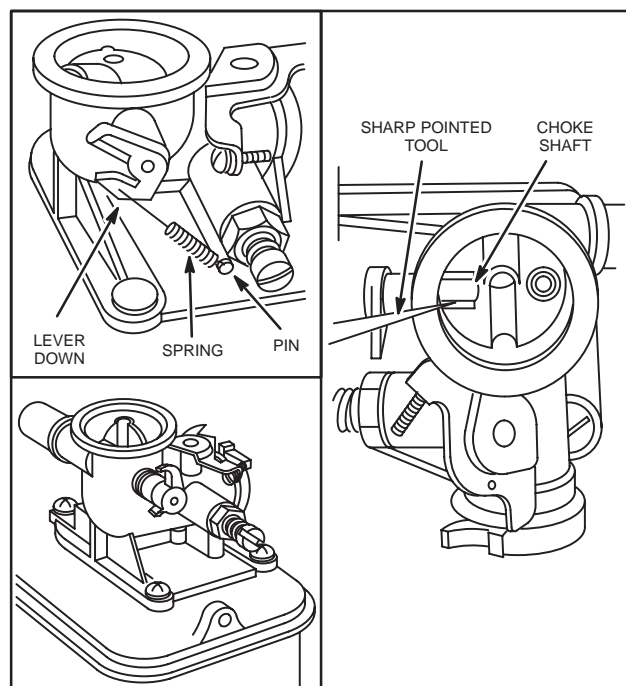

Fig. 152 – CHOKE SHAFT AND VALVE – CHOKE-A-MATIC®
1. To remove choke parts, first disconnect choke return spring (when used), Fig. 152.